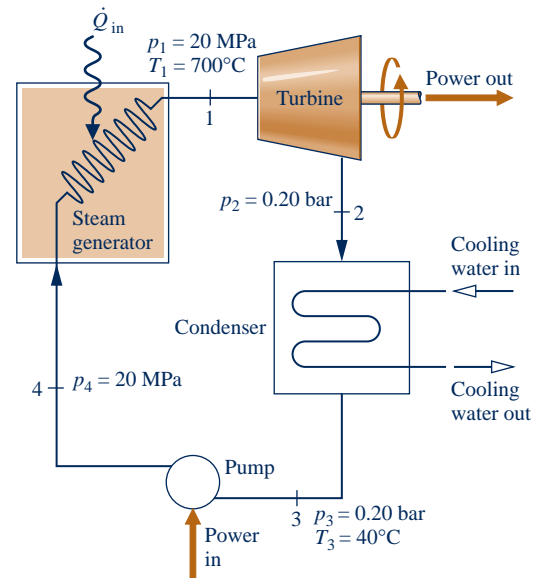

Fig. P6.135
6.135 Figure P6.135 shows a simple vapor power cycle operating at steady state with water as the working fluid. Data at key locations are given on the figure. Flow through the turbine and pump occurs isentropically. Flow through the steam generator and condenser occurs at constant pressure. Stray heat transfer and kinetic and potential energy effects are negligible. Sketch the four processes of this cycle in series on a T – s diagram. Determine the thermal efficiency.